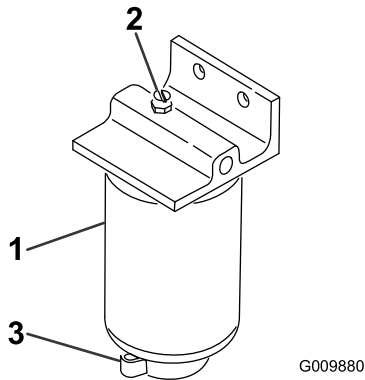

Figure 57
3. Loosen the drain valve on the bottom of the filter canister (Figure 57).
2. Clean the area where the filter canister mounts (Figure 57).